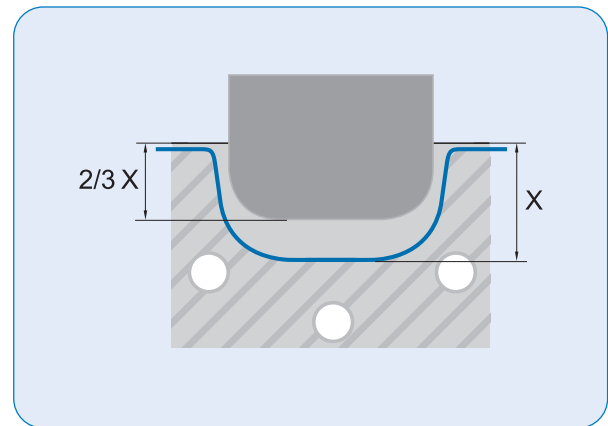

Figure 6
- Special attention needs to be taken when designing the shape of the plug. In principle, the shape and size of the plug should be similar to that of the cavity. The size of the plug should be approximately 80% of the cavity size but practical tests may allow for further optimization. The optimum material thickness distribution typically occurs at a plug penetration of 2/3 of the cavity depth (Figure 6).